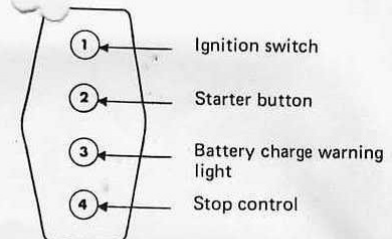

fig 4
- Turn in an anti-clockwise direction (see fig. 4)